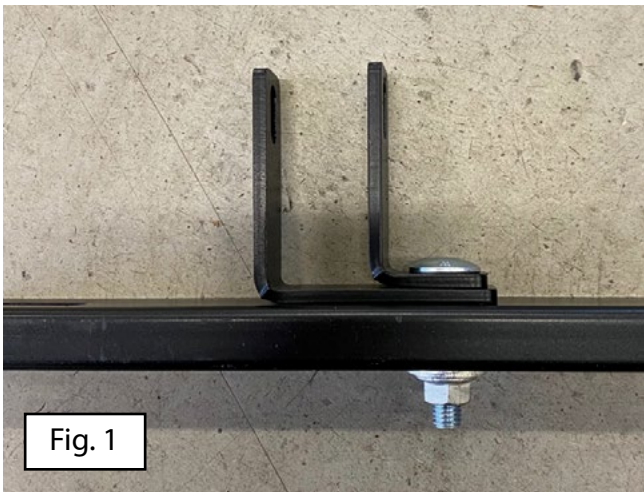

Fig. 1
Take a long L-shape bracket and lay a short L-shape bracket on top. Lay both brackets on top of the frame (8) and mount it with carriage bolt (5), washer (6) and flange nut (7). See fig. 1. Make sure that the slot is down. See detail in drawing below.